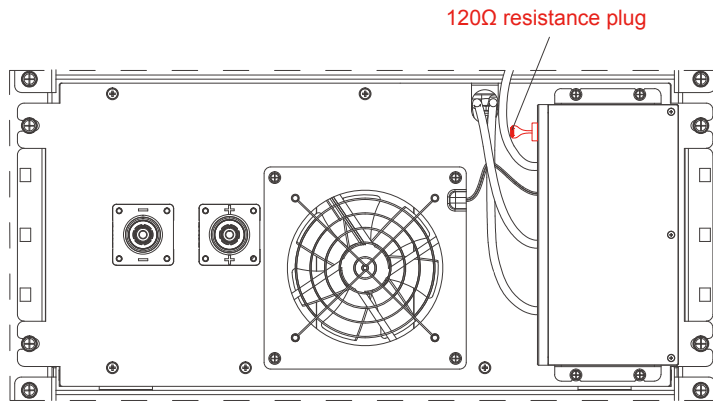

Figure 2.11
(7) The last battery box BMU output communication port has a 120 Ω resistance plug (Figure 2.11).